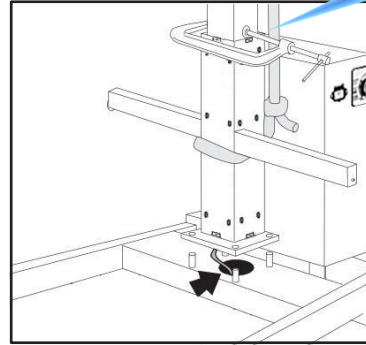

Figure 17
1. With the column supported above the base unit, put the plastic hydraulic return tubing through the hole in the base as shown (Figure 17). Be sure to ease the tubing out of the way as you lower the column onto its studs, so it is not damaged during column assembly.